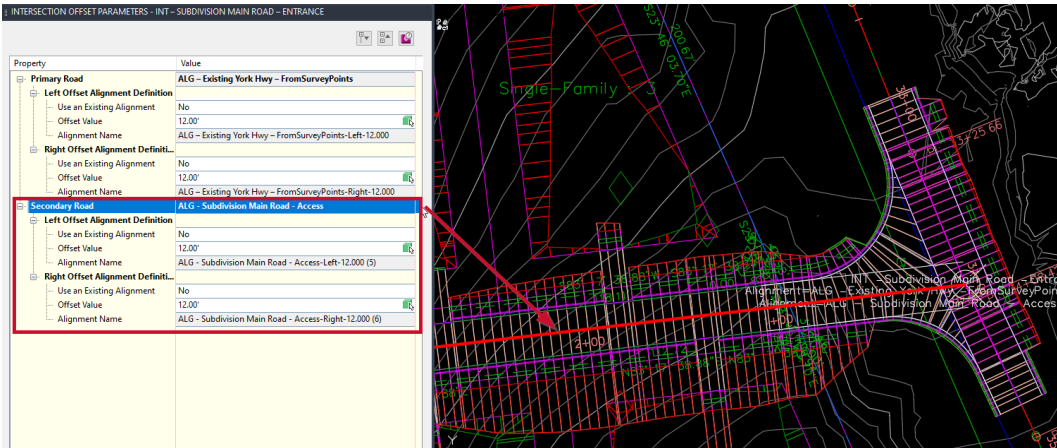

Figure 3.4 – Highlighting of design component / subcomponent
3. Next, we'll have the **INTERSECTION OFFSET PARAMETERS** dialog box appear. As we select either the **Primary Road** or the **Secondary Road** geometry, along with the subcomponents listed within, we'll notice that, in the model space of our design, an alignment or subcomponent is highlighted (refer to *Figure 3.4*). This automatic highlighting gives us a great quick indication as to which parameter and value we're updating or modifying.